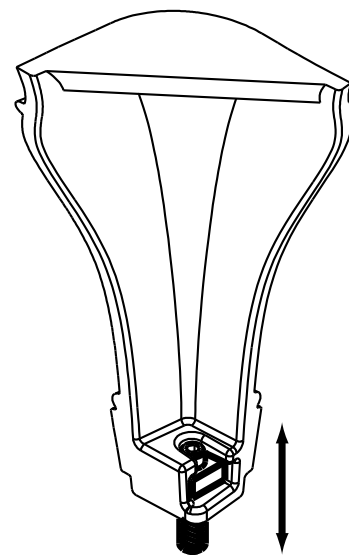

Figure 22.4
10. Use Allen wrench to adjust legs up and down to desired level (**Figure 22.4**).